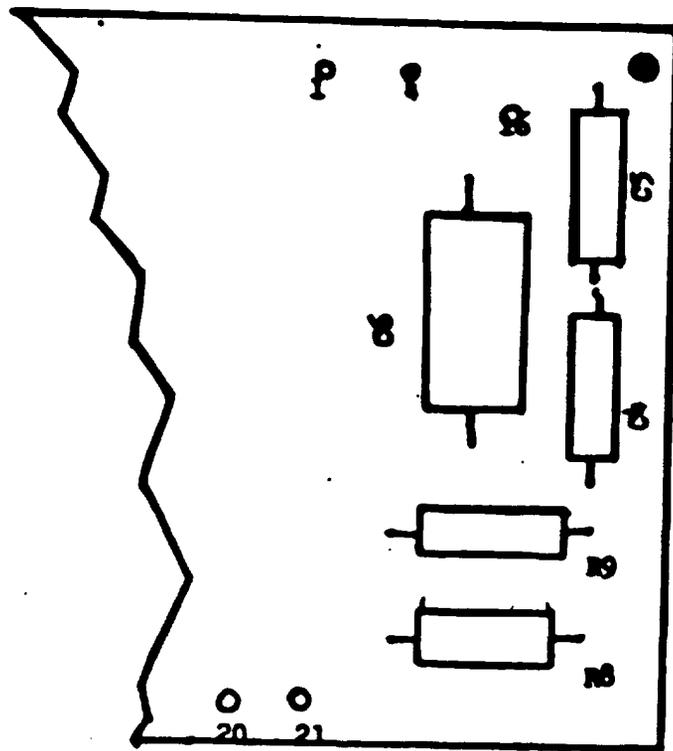

FIG. 2
- c) Remove black wire at printed circuit board, reference designator number 1. (See figure 2.)
- c) Remove black wire at printed circuit board, reference designator number 4. (See figure 2.)